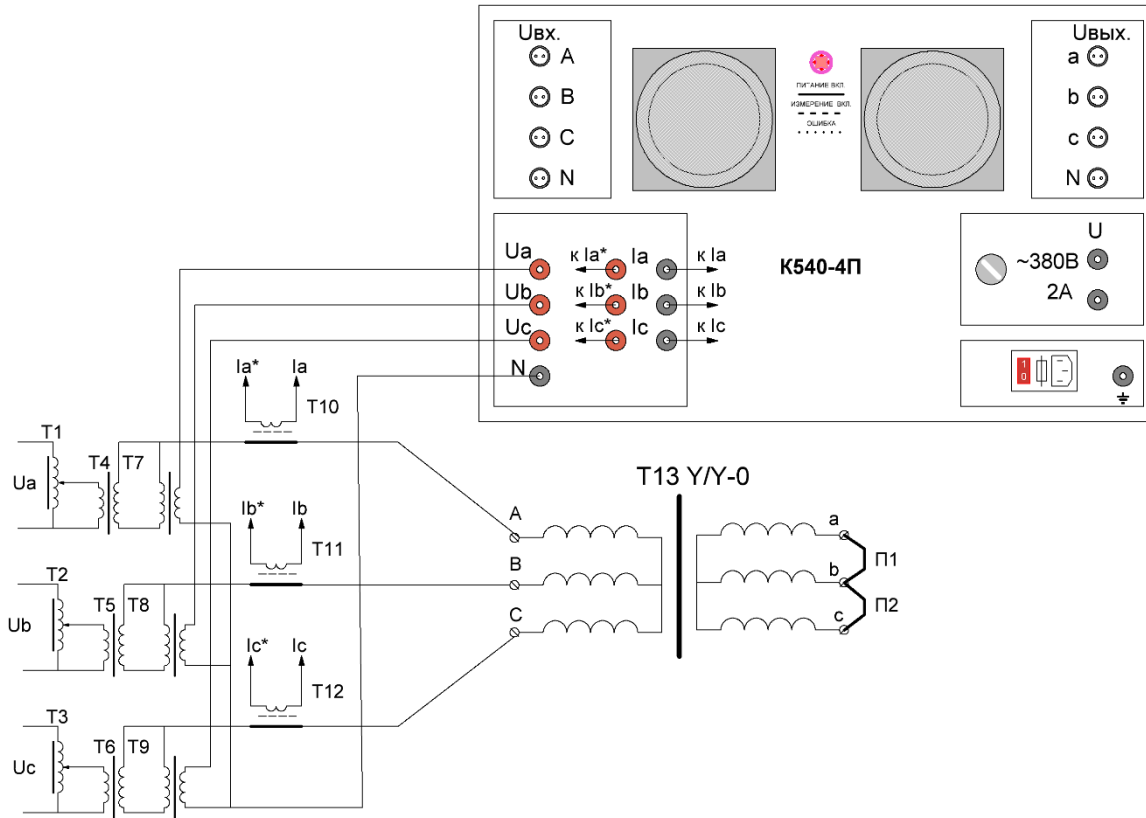

Figure 6.11
For measuring the short-circuit loss, at rated drive current, circuit in Figure 6.11 shall be assembled.
1. P_{sc} is usually measured at drive current over 10A. Use of current transformers in the circuit (Figure 6.11) is practically always necessary.